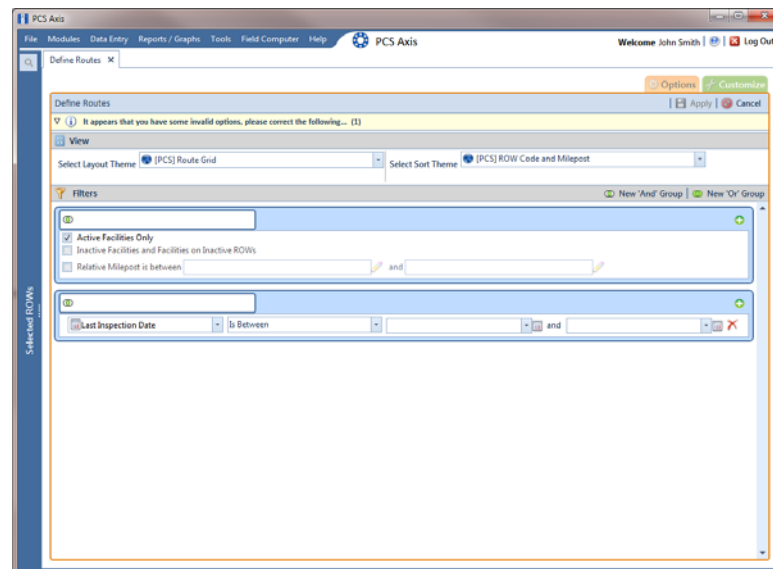

Figure 8-4. New 'And' Filter Group
- 7** If you want to add a new AND filter group, complete the following steps. With an AND filter group, PCS Axis includes a subset of records that meet *all* filter conditions defined for the filter group. Records are filtered in the grid and in the route (Figure 8-4, page 353).